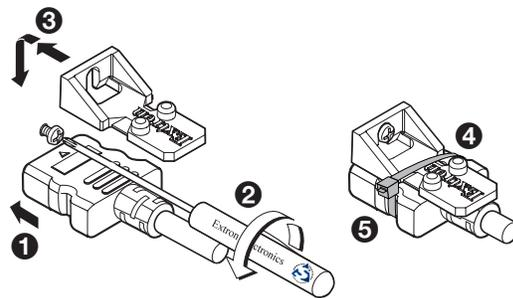

Figure 5. Installing the LockIt Cable Lacing Bracket
1. Plug the HDMI cable into the panel connection (see figure 5, **1**).